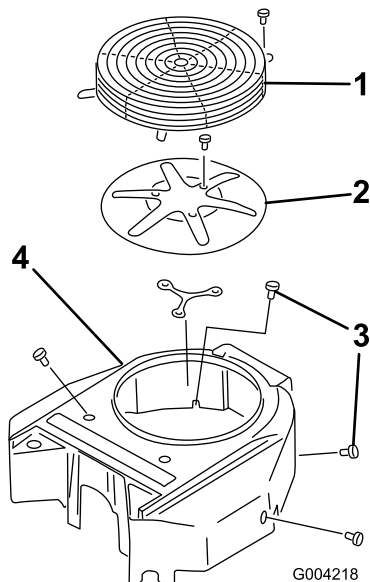

Figure 43
3. Remove the guard, air intake screen and fan housing (Figure 43).
5. Install the guard, air intake screen and fan housing (Figure 43).